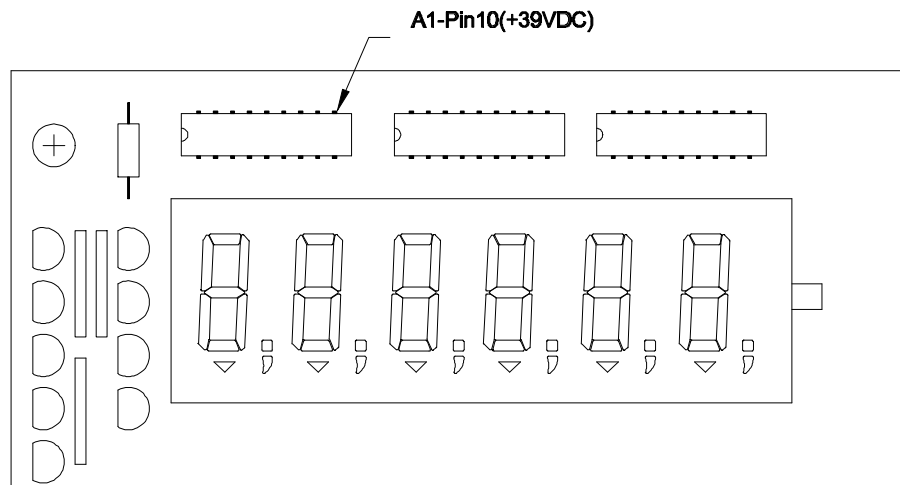

Figure 7-4: Dual Display PCB Display Voltage Check
- 8 - **+39 VDC**: Display Voltage (A1 pin 10, Figure 7-4).